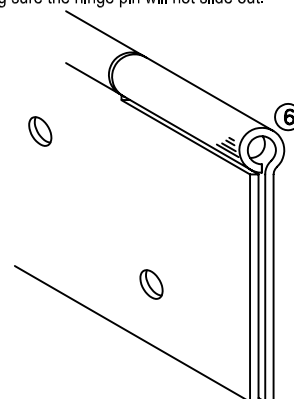

Figure 3
- 1) Cut hinge to custom length if required, see Fig 3 over page.